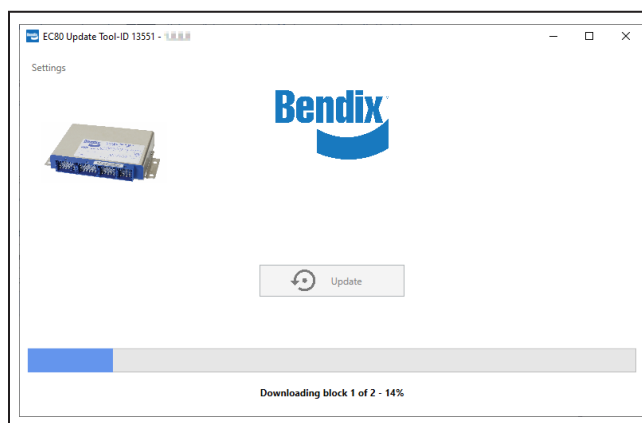

Figure 3 – Update in Process
4. Figure 3 shows the update is in process. The update time is approximately two (2) minutes.